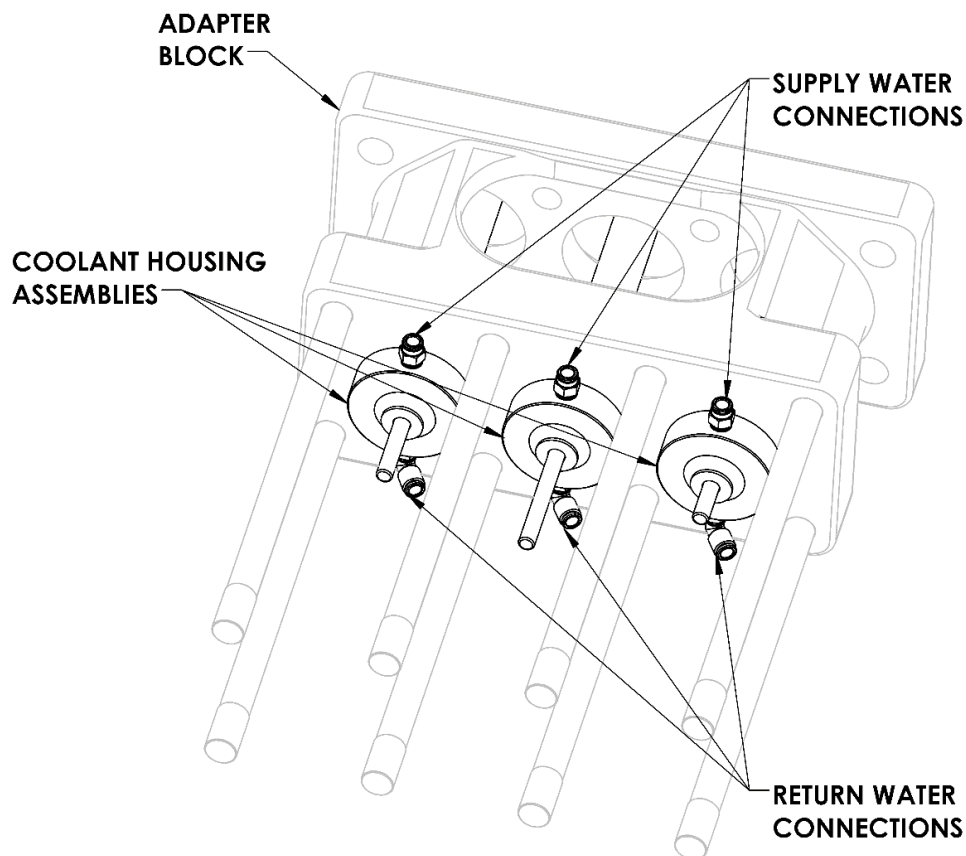

Figure 40 Coolant Housing Assembly Installation and Hose Connections
3. **Slide** the coolant housing assembly over the plunger until it is fully engaged into the bore in the adapter block (see **Figure 40** below). **Note** that during this step the plunger is not firmly held and you can **move** it for alignment with the coolant housing assembly.